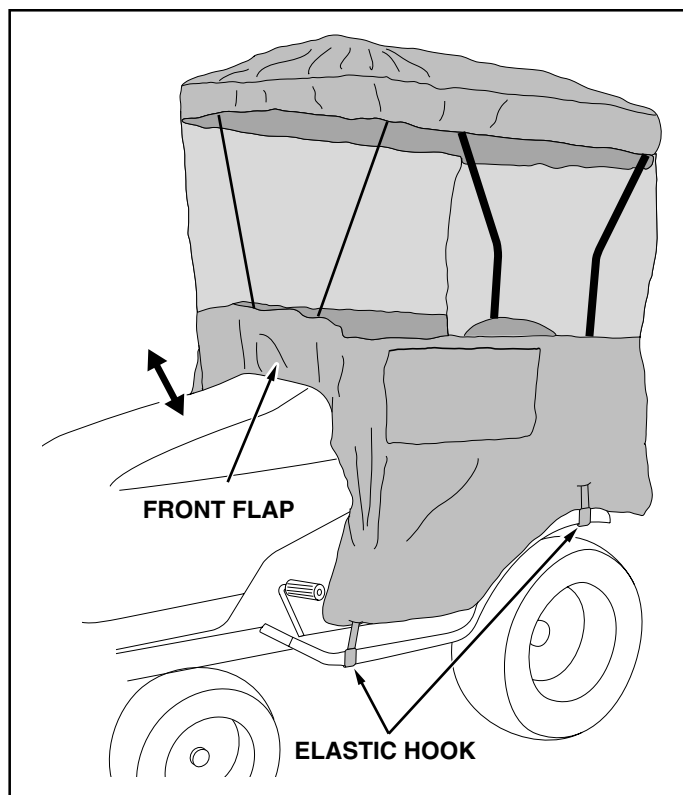

FIGURE 8
- Raise the tractor's hood. Place the snow cab canopy onto the tubing frame, draping the front flap down in front of the tractor's dash panel. Lower the hood, trapping the front flap under the hood. Secure the sides of the canopy by fastening the elastic hooks to the bottom edge of the footrest and fender. Any levers or handles on snowthrowers or snow blades should be located outside of the cab. See figure 8.